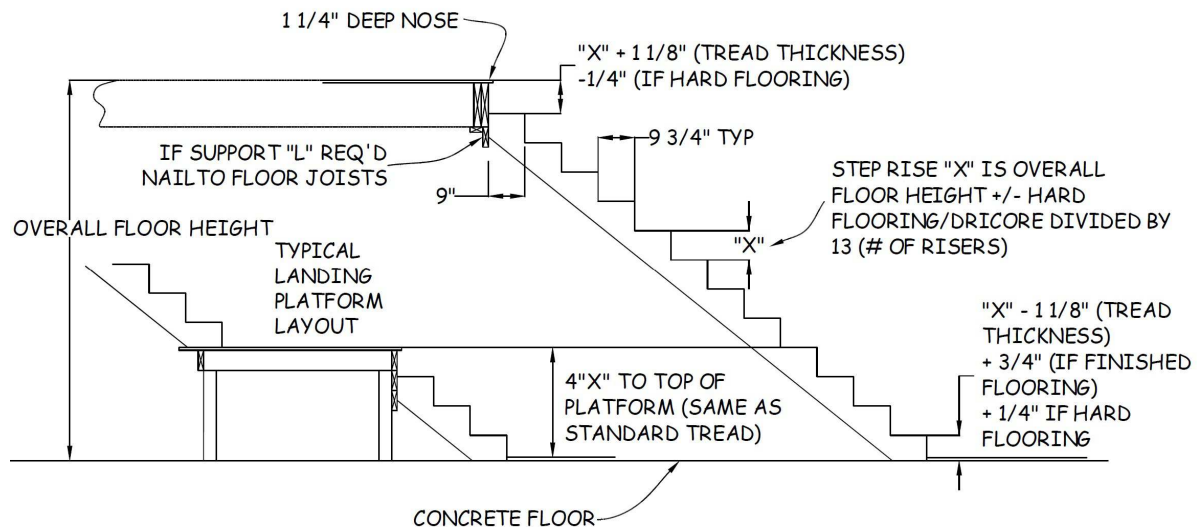

Figure 4-7. Stair Stringer Installation.
4. Reduce the height of the last rise at the bottom of the stringer by $1\frac{1}{8}$ " (the thickness of the tread). This will accommodate the $1\frac{1}{8}$ " thickness of the tread (see Figure 4-7).
12. Use the last calculation in Figure 4-5 (Top Step Rise) and measure that distance down from the underside of the deck. Make a line on the stairwell framing at this point. This line marks the location of the tops of the three stringers (Figure 4-7).
1. A landing, if required, is a "joist" box made of 2x6's covered with $\frac{3}{4}$ " floor decking with floor joists installed on 16" centers (see Figure 4-7).